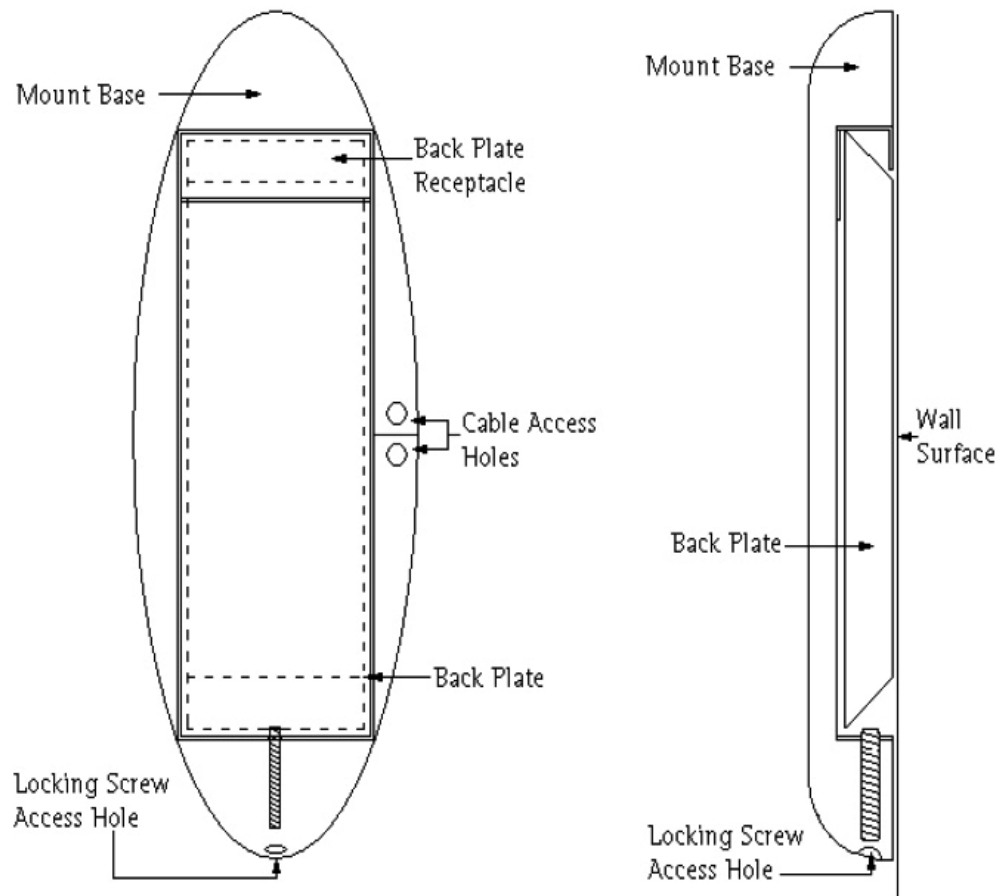

Figure 5. WB-31 Installation
NOTE In reference to Figure 5, the dash lines represent the back plate that is mounted to an existing surface.
1. The reverse side of the mount must be mounted to the back plate that is attached to the wall. The back of the mount contains an elongated rectangle (Figure 5). Referring to Figure 5, the back plate receptacle must be placed over the top of the back plate, so that the entire mount "hangs" on the back plate.
NOTE: In reference to Figure 5, the dash lines represent the back plate that is mounted to an existing surface.